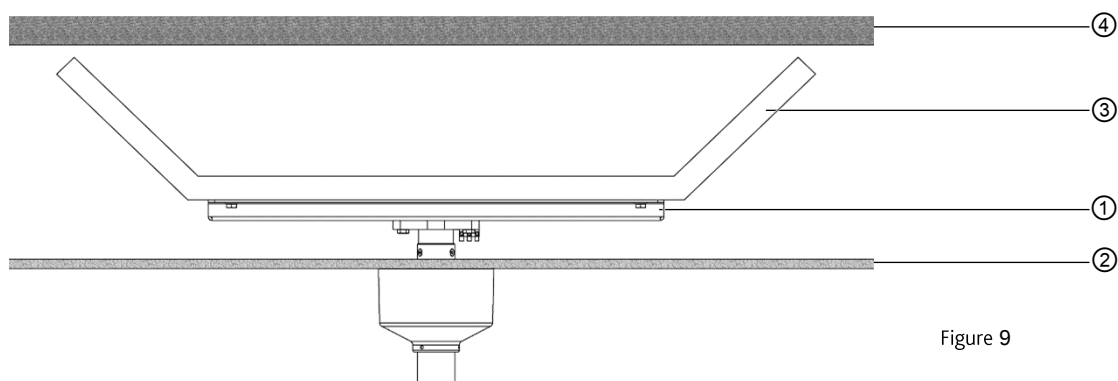

Figure 9
The anchorage plate (1) may be mounted above a suspended ceiling (2) onto a suitable support framework with bracing (3) fixed to the raw concrete ceiling (4) (figure 9). These procedures assume that professional architectural or engineering services have been consulted with reference to Section 17 – Securing bolt data. The installation, selection of installation hardware and torque values must be determined by a structural engineer. The anchorage plate must be horizontal.